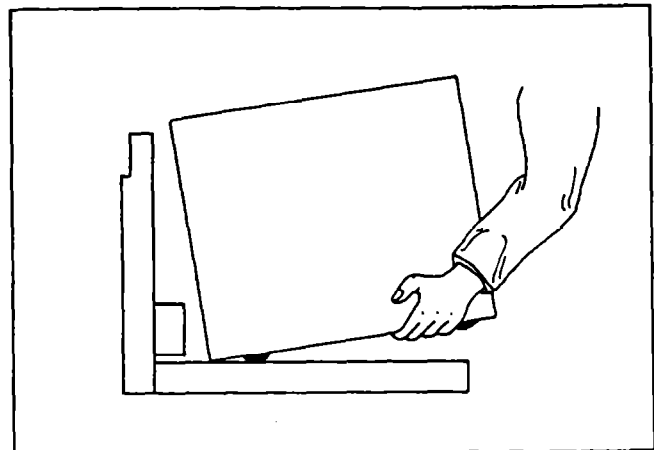

FIGURE 9
2. Place the rear legs of the oven on the "L" brackets between the two "U" shaped slots. See Figure 9.